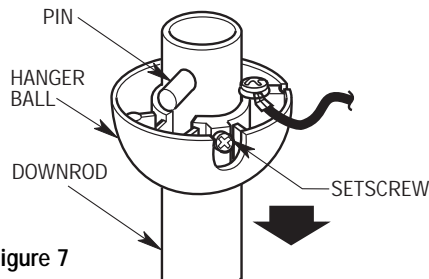

Figure 7
- 10. Remove the hanger ball by loosening the setscrew in the hanger ball until the ball falls freely down the downrod (Figure 7). Remove the pin from the downrod, then remove the hanger ball. Retain the pin and hanger ball for reinstallation in step 18.